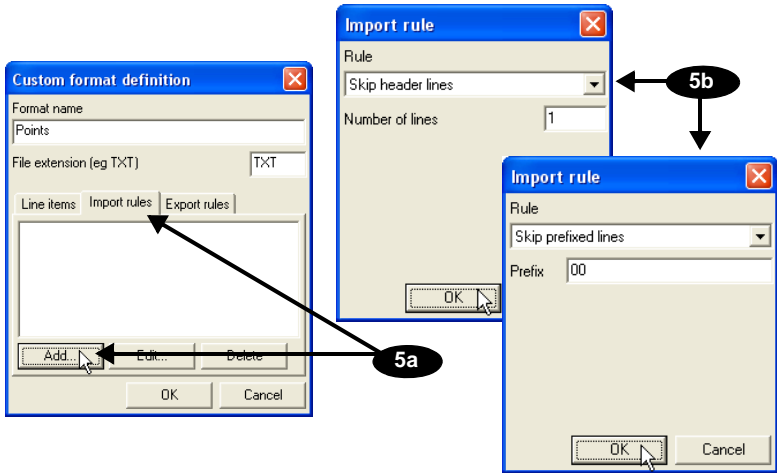

Figure 2-3. Add Import Rules
- Click **Import rules** and click **Add**. Select the desired *Rule* and enter the applicable *Number of lines* to skip or lines with a certain *Prefix* to skip. Click **OK** (Figure 2-3).